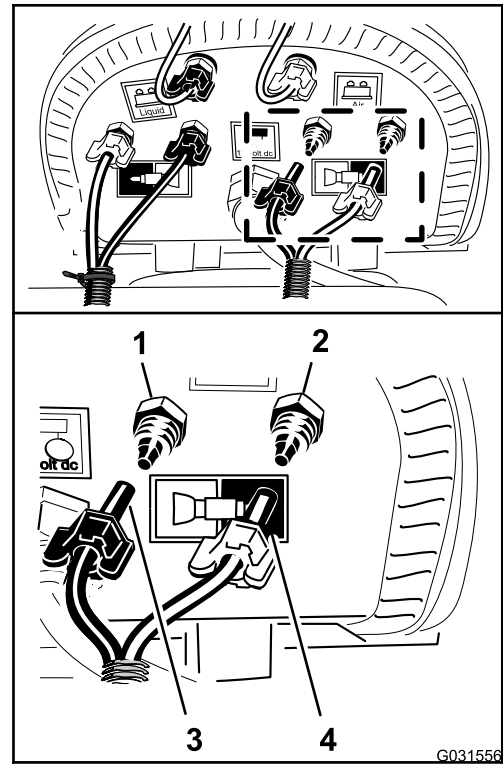

Figure 214
7. Connect the unmarked (no cable tie) tubing by aligning the blue tube for the left boom section onto the compression fitting for the left boom section water circuit (Figure 214).
8. Assemble the compression nut for the tube onto the fitting and tighten the nut by hand (Figure 214).
9. Aligning the clear tube for the left boom section onto the compression fitting for the left boom section air circuit (Figure 214).
10. Assemble the compression nut for the tube onto the fitting and tighten the nut by hand (Figure 214).